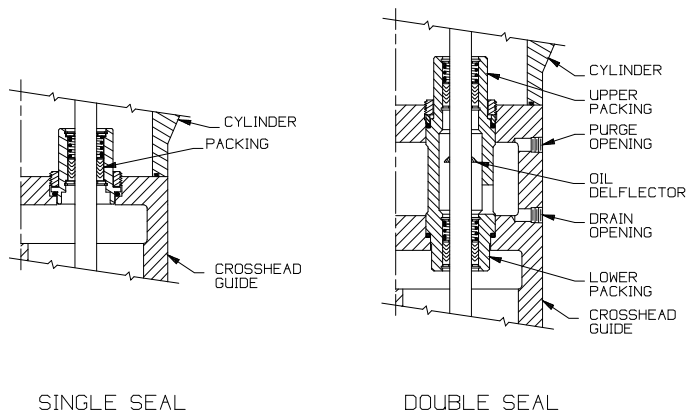

Figure 13 - Typical Seal Assembly
3. Ensure that the 6th digit of the Compressor ID number is a "1", indicating a TYPE 1 packing arrangement. See "Nameplate Data" in this manual. Refer to Figures 13 and 14 for proper TYPE 1 component location and orientation.